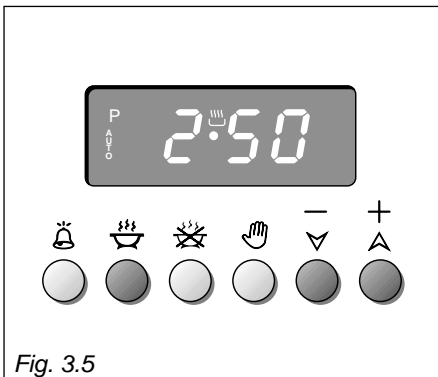

Fig. 3.5
1. Set the length of the cooking period by pushing the  button and the  (\oplus) button to increase, or  (\ominus) to decrease if you have passed the desired time (fig. 3.5). The **AUTO** and the  symbol will illuminate.